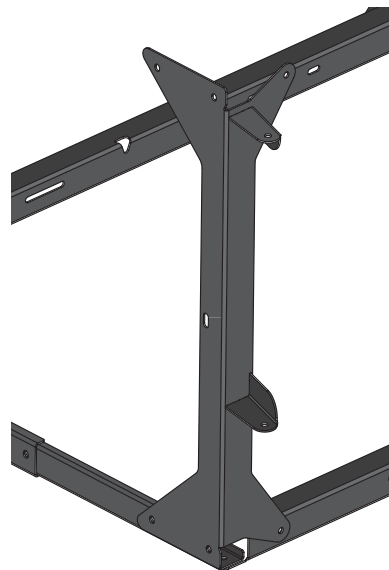

FIG. 4b
If you are installing a 28" Cyclone, you will replace one of the top Short Braces with the Plenum Support Brace (G) on the side where your Filter Plenum will be located [FIG. 4b].